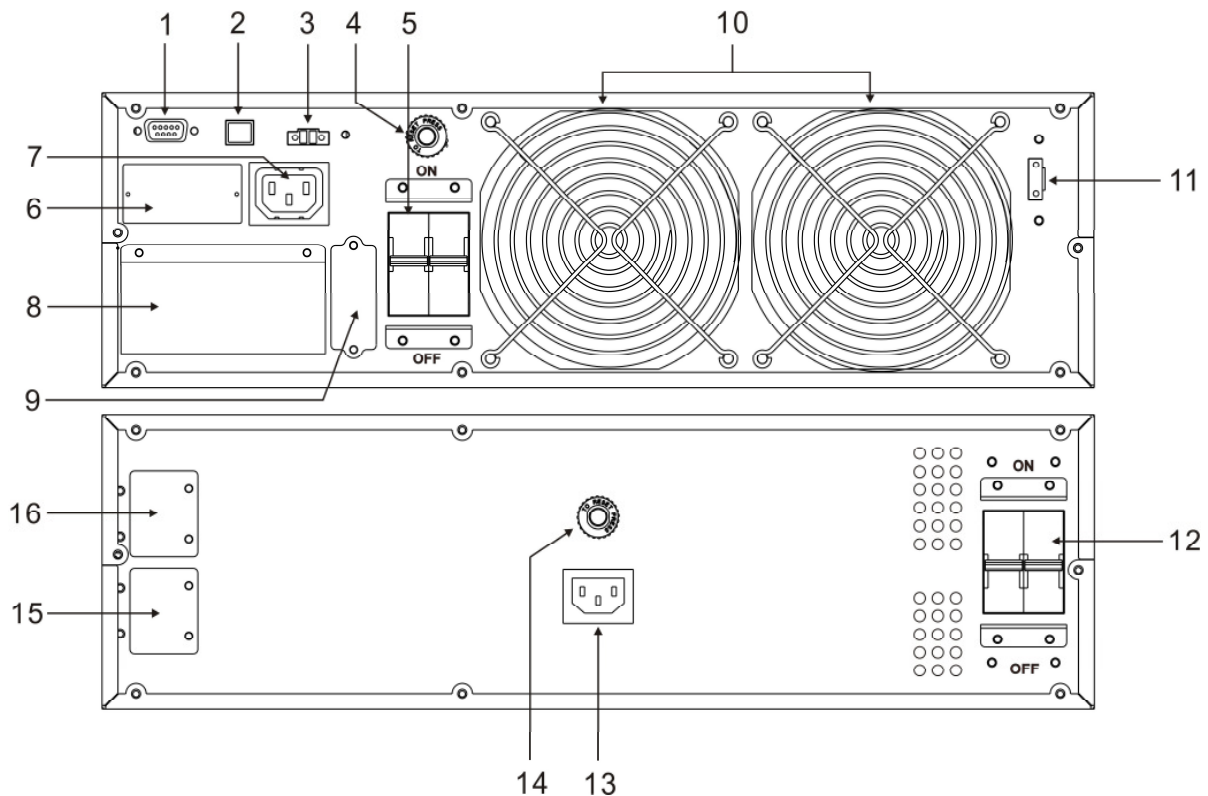
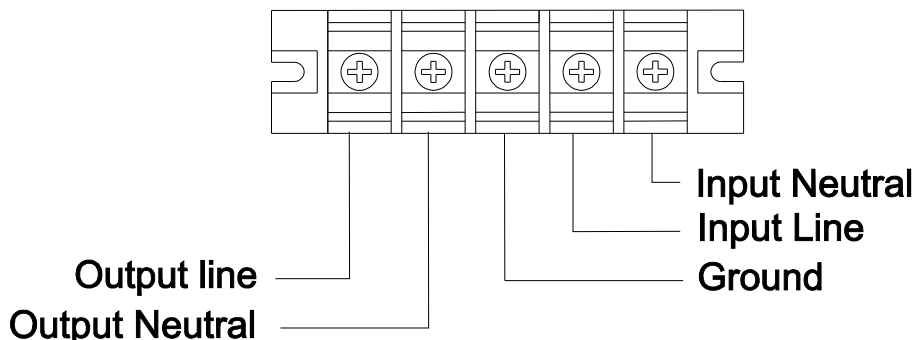

Figure 4 - above: UPS unit; below: BATTERY BOX unit
Figure 5 - Input/Output Terminals
8. **Metallic panel for access to the Input/Output terminals:** upon removal, it is possible to access the Input/Output terminals (see figure 5).
1. The Input circuit breaker of UPS unit is “OFF” (see figure 4).
2. The Battery circuit breaker of Battery Box unit is “OFF” (see figure 4).
1. Remove the **metallic panel that covers the Input/Output terminals**, see figure 4. The terminals are shown in figure 5. All the cables have to reach the terminals from the rear side using the proper holes in the metallic panel.
2. Connect the **INPUT line (LINE, NEUTRAL and GROUND)**, paying attention to the right polarity, in accordance with figure 5, as explained below:
- ▶ Remove the metallic cover of Battery connector on the UPS unit (# 9 figure 4)
- ▶ Remove the metallic cover of Battery connector on the Battery Box unit (# 15 or #16, figure 4)
- ▶ Connect the **AC Input power socket** of the Battery Box unit (# 13 figure 4) to an **AC utility line** for recharging batteries.
1. Turn "ON" the Battery circuit breaker of the Battery Box unit (see figure 4).
2. Check if the Input circuit breaker the rear side of UPS unit is in "OFF" position (see figure 4).